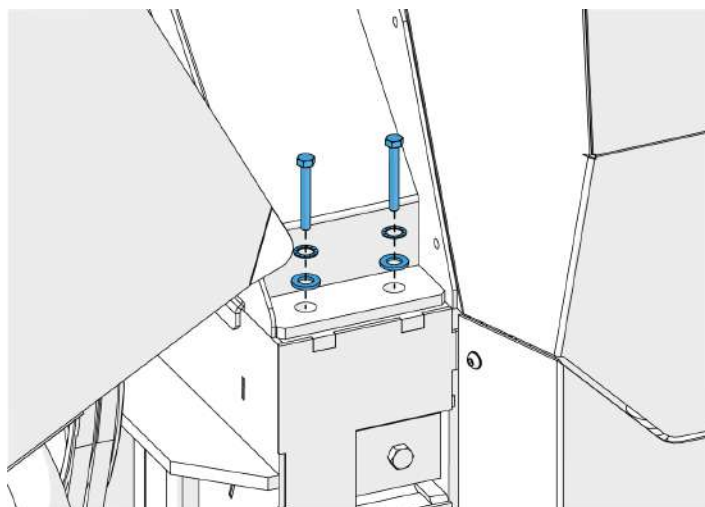

Figure 56 - Chipping chamber cover bolts
5. Remove the two bolts holding the chipping chamber cover closed (Figure 56).